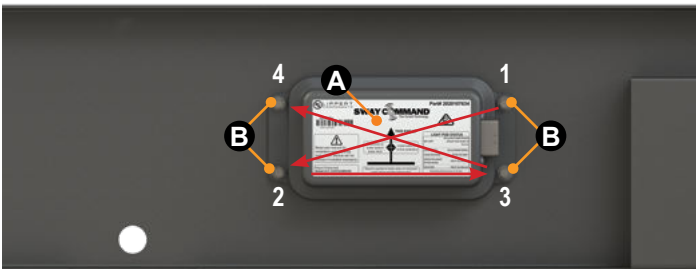

Fig.2
6. Using an impact driver, securely fasten all screws using a crisscross pattern (Fig.2) until screw heads are nearly flush against the lock washers.
7. Torque screws 10 - 12 Nm in the crisscross pattern shown in figure (Fig.2).
9. Make sure controller orientation is correct (Fig.2).
4. Insert M6 x 11.0 x 0.7 serrated external lock washers over each #14 - 10 x 25 mm self-drilling hex screw, then attach the controller (Fig.3A) and protective bracket (Fig.3B) to the crossmember (Fig.3C) with the four hex screws in accordance with steps 5 - 7 and figure 2 of the Standard Chassis Mounting procedure.